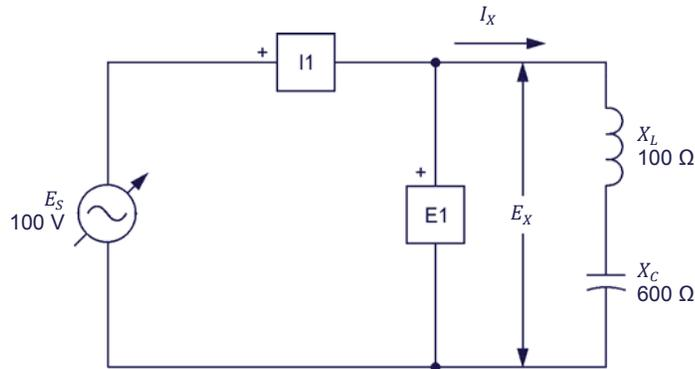

Figure 2-17. Series ac circuit containing an inductor and a capacitor.
16. Make the necessary switch settings on the **Inductive Load** and **Capacitive Load** (or on the **Inductive and Capacitive Loads**) in order to obtain the values of inductive reactance  $X_L$  and capacitive reactance  $X_C$  indicated in the circuit of Figure 2-17.